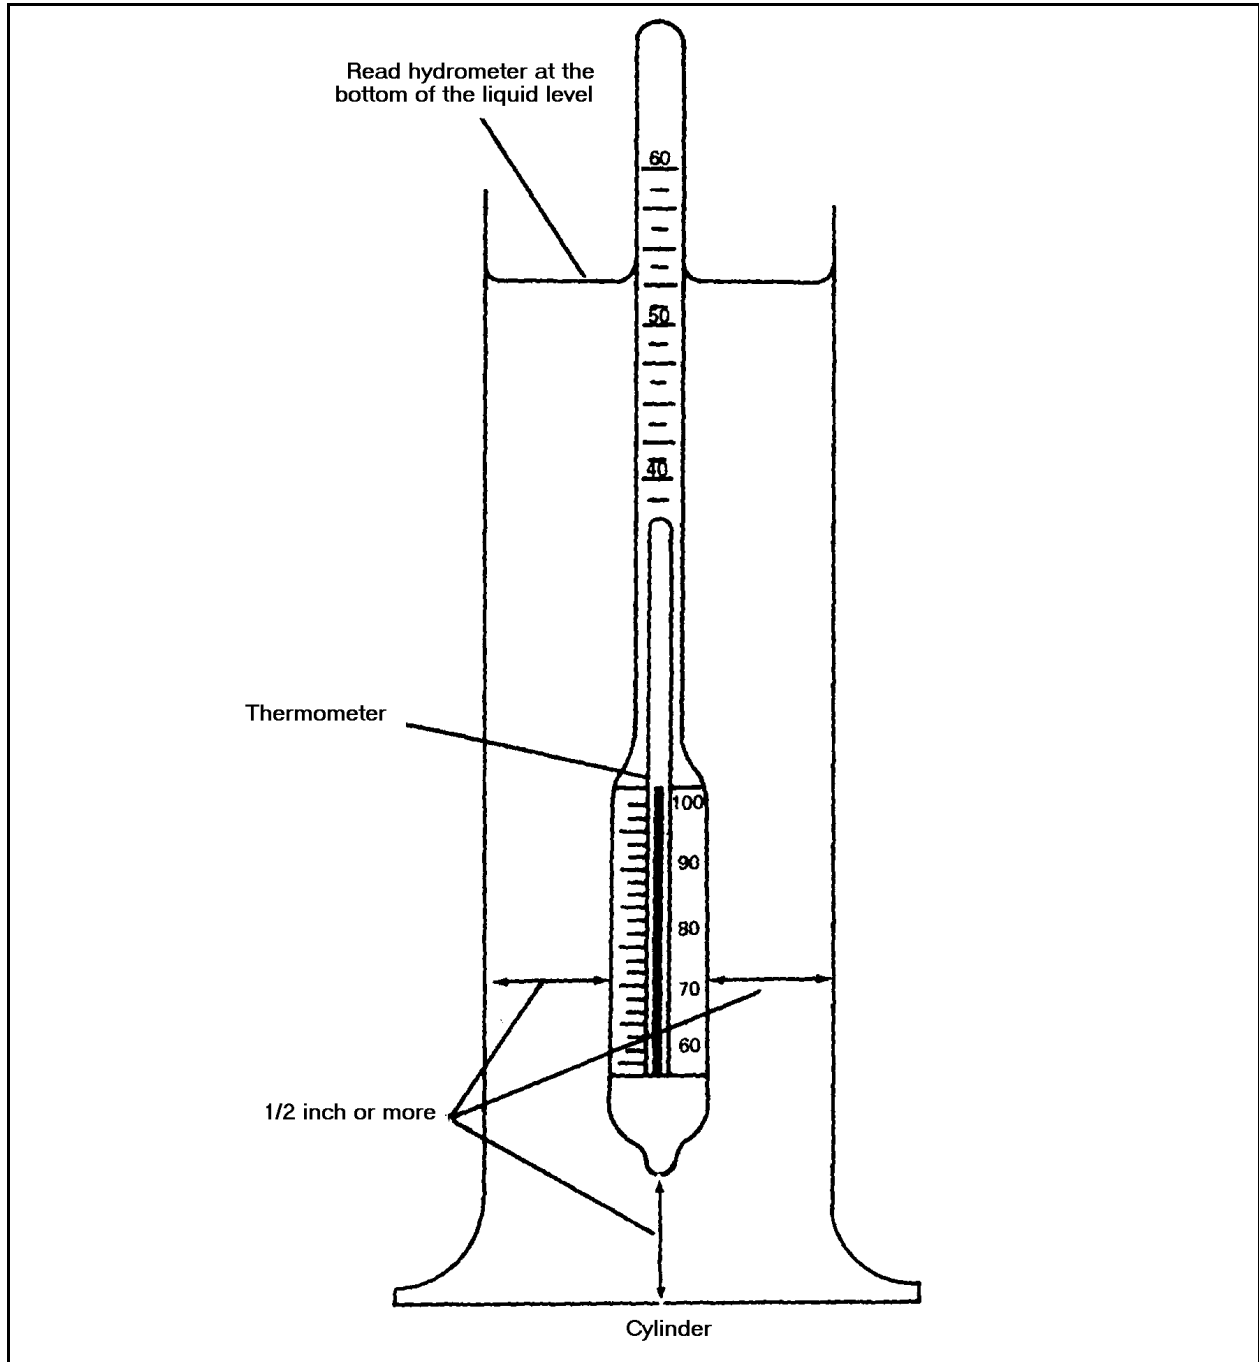

Figure I-2. Hydrometer ready to be read
- Step 11. When the hydrometer is floating freely at rest, read it to the nearest scale division. Have your eye slightly below the level of the liquid, and raise it slowly until the surface of the liquid appears to be a straight line across the hydrometer scale. Record the gravity reading to the nearest scale division as shown in Figure I-2, page I-3.